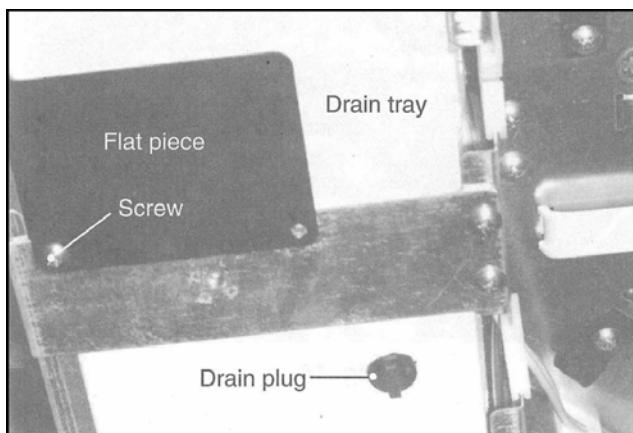

Fig. 8
6. Remove the flat piece and screw that hold the power supply cord (Fig. 8).